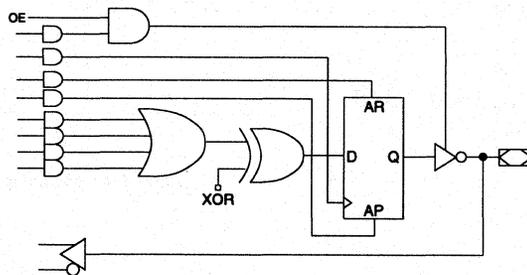

Figure 3.
The individual clock control on the OLMC is one of several different individual product-term controlled features which are available on the GAL20RA10. Other individual product-term controlled signals of the GAL20RA10 include the Asynchronous Preset (AP) and Asynchronous Reset (AR). These signals can also be used, similar to the clock signal, to enhance system performance. In addition to these features, the GAL20RA10 has an external preload (PL) capability to improve the control over the register contents — especially in state machine design. The full GAL20RA10 macrocell architecture is shown below, in figure 3.